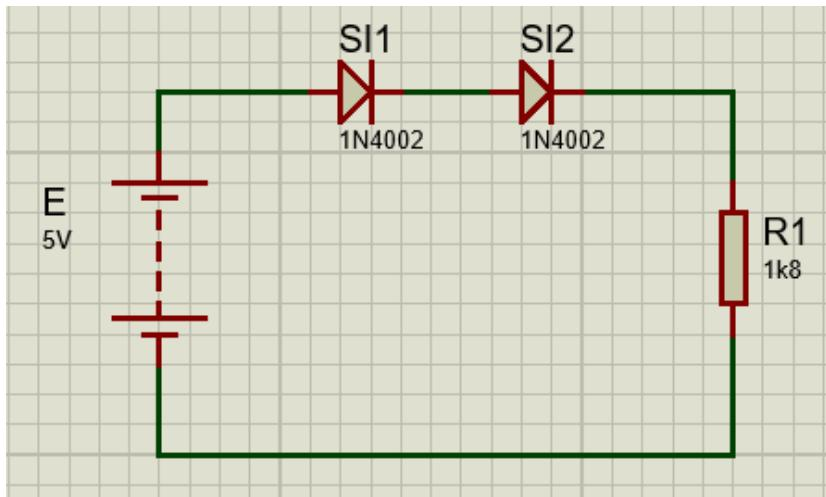

Figure 1.1
1. Construct the circuit of *Fig. 1.1* with the supply ( $E$ ) is set at 5 V. Record the measured value of the resistor.